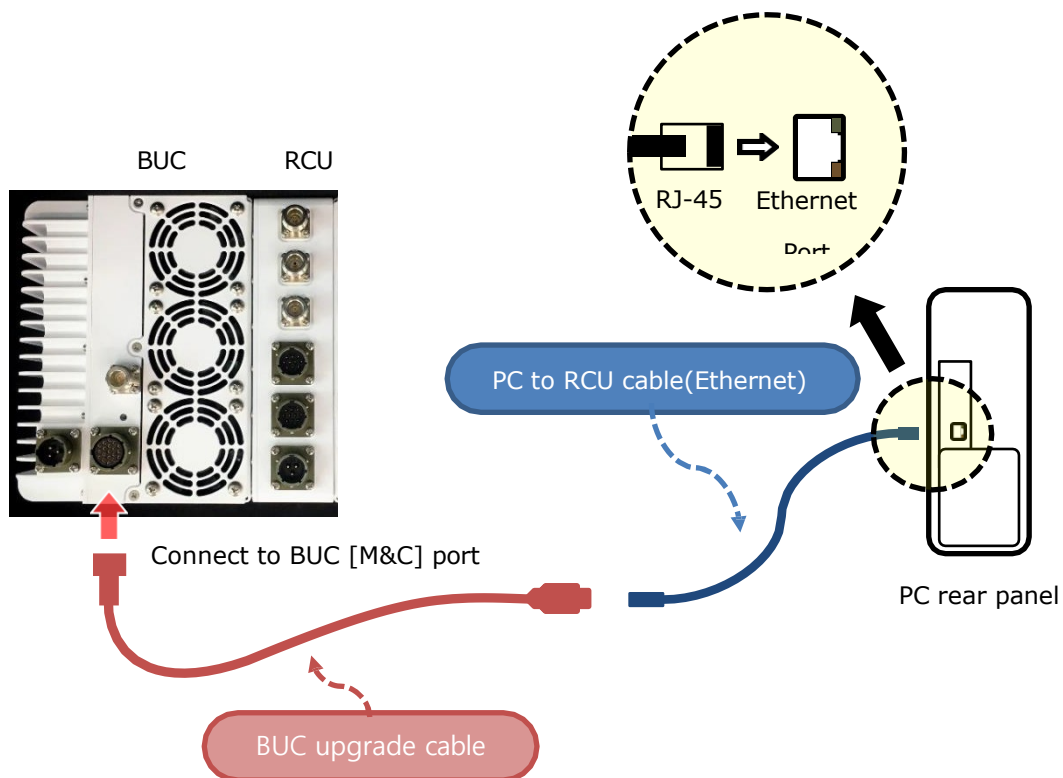

Figure 4.31 – Connection Between PC and BUC
- 2) Follow the **Figure 4.31** to connect the PC and the BUC using a [PC to RCU cable (Ethernet) + BUC Upgrade cable].